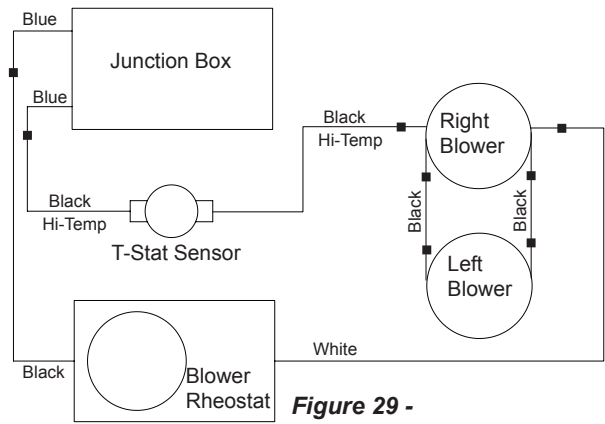

Figure 29 -
3. The junction box cover has a factory installed "romex" style strain relief connector. After connecting the wires, route the wire leads through this connector. Refer to the wiring diagram in *Figure 29*.